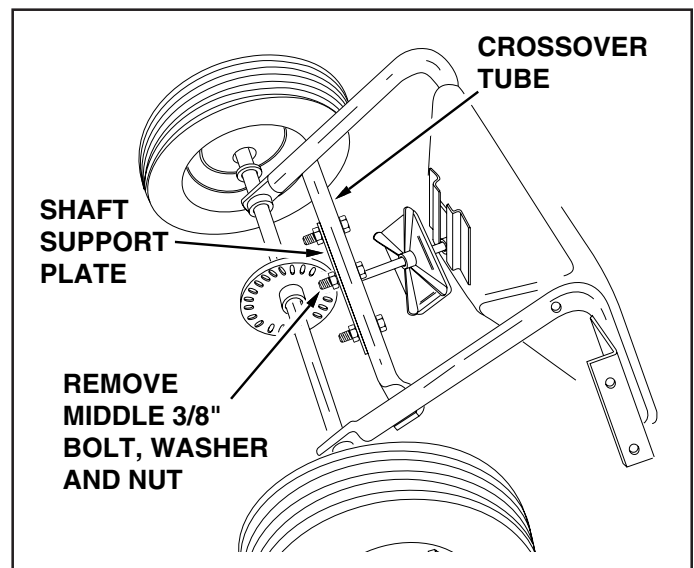

FIGURE 3
9. Remove the middle 3/8" hex bolt, flat washer and hex lock nut that fasten the shaft support plate to the crossover tube. **Do not loosen or remove the two outer bolts.** See figure 3.